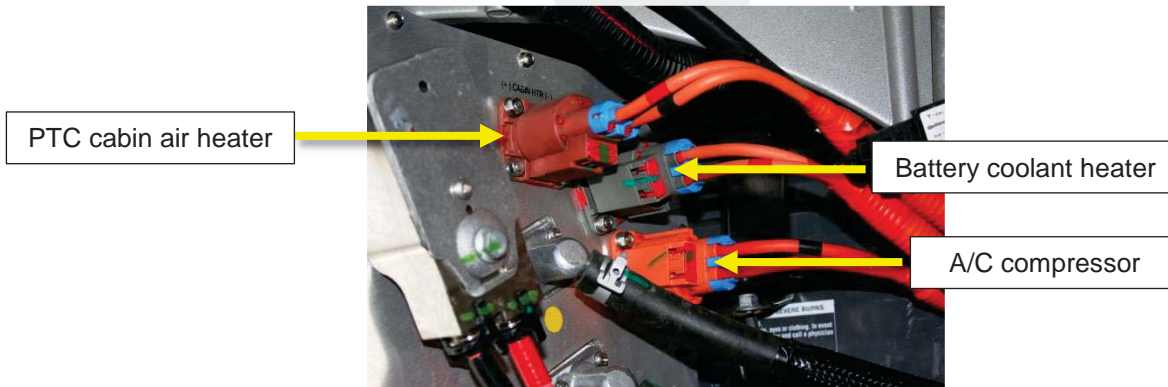

Figure 3
4. The DCDC Converter is mounted on the RHF side fender well. Locate the PTC cabin air heater, battery coolant heater, and A/C compressor connectors on the DCDC converter (Figure 3).